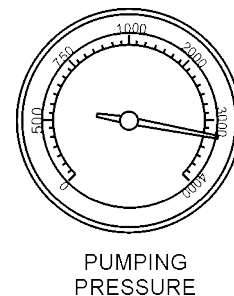

Figure 44. Pumping Pressure Gauge
13. The Pumping Pressure Gauge (Figure 44) should read approximately 4400 ± 50 PSI.